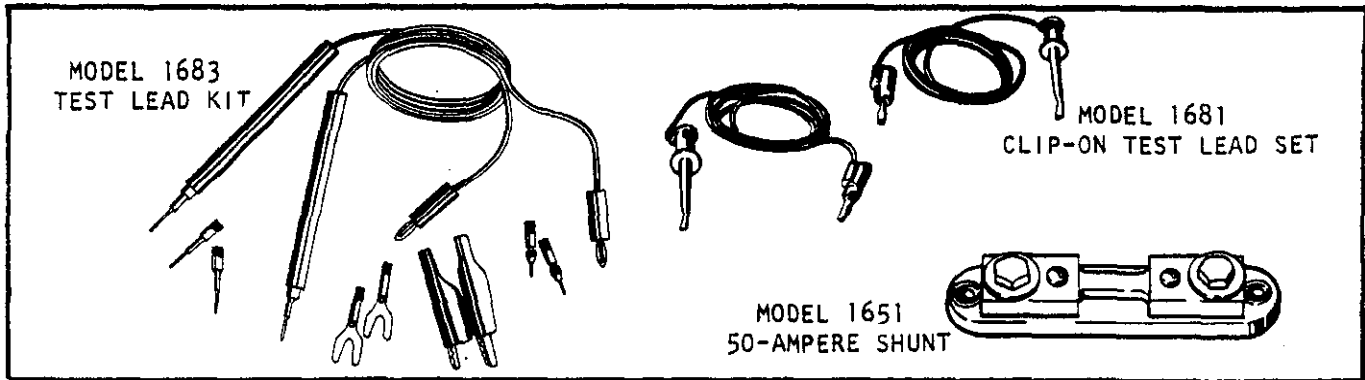

FIGURE 2-5. Accessories.
b. **Model 1651 50-Ampere Shunt.** The Model 1651 50-Ampere Shunt (shown in Figure 2-5) permits current measurements from 0-50A dc and from 20-50A ac. The shunt has a resistance of 0.001 ohm ±1%, so that a 50-ampere current will correspond to a reading of 50 millivolts (0.0500 volt). Set the DMM to ACV or DCV and select the required range. To use the shunt, connect the leads furnished with the shunt from the shunt screw terminals to the DMM input terminals. Use separate leads (not furnished) to connect the source to the hex head bolts. Be sure to use leads with a capacity of 50 amperes, or as needed.
c. **Model 1681 Clip-On Test Lead Set.** This set (shown in Figure 2-5) contains two leads with banana plugs at one end and spring-action clip-on probes at the other end. Plug the leads into the DMM and attach the probes to the source.
d. Model 1683 Universal Test Lead Kit. This kit (shown in Figure 2-5) contains two test leads, 14 tips, two probes, four banana plugs, two spade lugs, and two phone tips to permit connection of the DMM to virtually any source within its range.